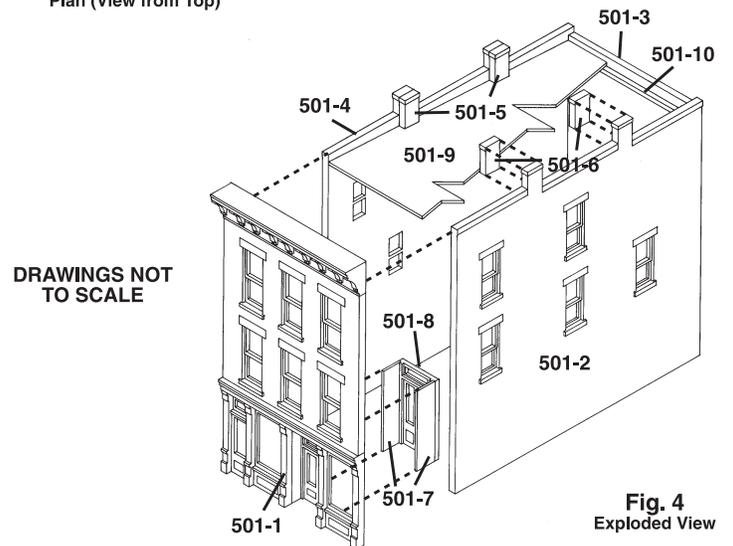

Fig. 4
- Using Side Panel material (white styrene strip), cut two Entry Door Side Panels (502-7) the same height as Entry Door (501-8) (Fig. 4).
The Roof (501-9) will be glued to the bottom of the four Chimney Backs. The Roof slopes downward from the front of the building to the rear. The bottom of the Chimney Backs slope in the same direction. Chimney Backs (501-6) slope downward from left to right and Chimney Backs (502-6) slope the opposite way (Fig. 4).
- Glue Front Wall (501-1) to Side Wall (501-2). Align brick courses while keeping bottom of Walls as level as possible and corners square (Fig. 4). **TIP!** Use styrene Roof as a square.